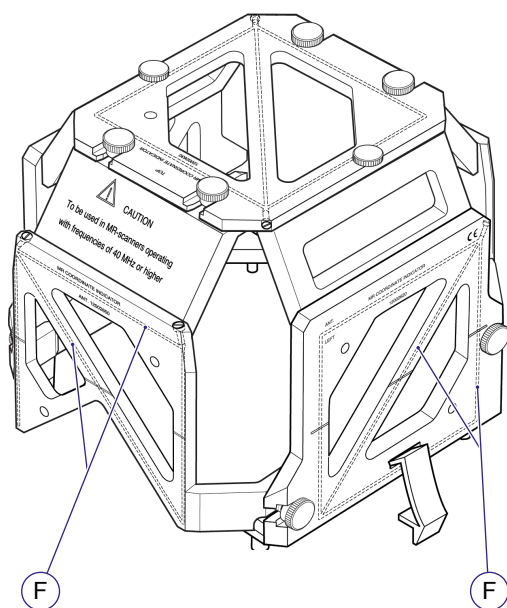

Figure 4.7 MR Indicator box
In MR Indicator boxes the fiducials (F) consist of a Z-shaped cavity filled with copper sulfate. This is illustrated in Figure 4.7.